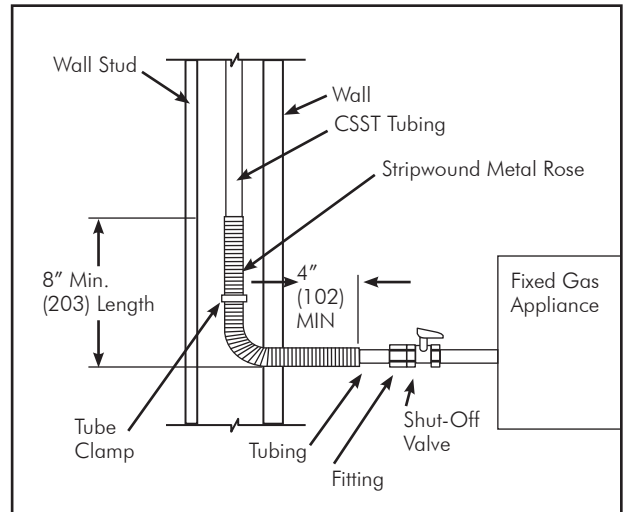

FIG. 4-22 Direct Tubing Connection to a Fixed Gas Appliance Shut off Valve
- **Fixed appliance connections** may be directly connected to the DIAMONDBACK™ tubing. When the fixed appliance is located in a secure, dedicated space, such as basement, attic, garage or utility closet, the flexible piping may be directly connected to the appliance shut-off valve without installation of a flange fitting or flexible appliance connector (See FIG. 4-22).